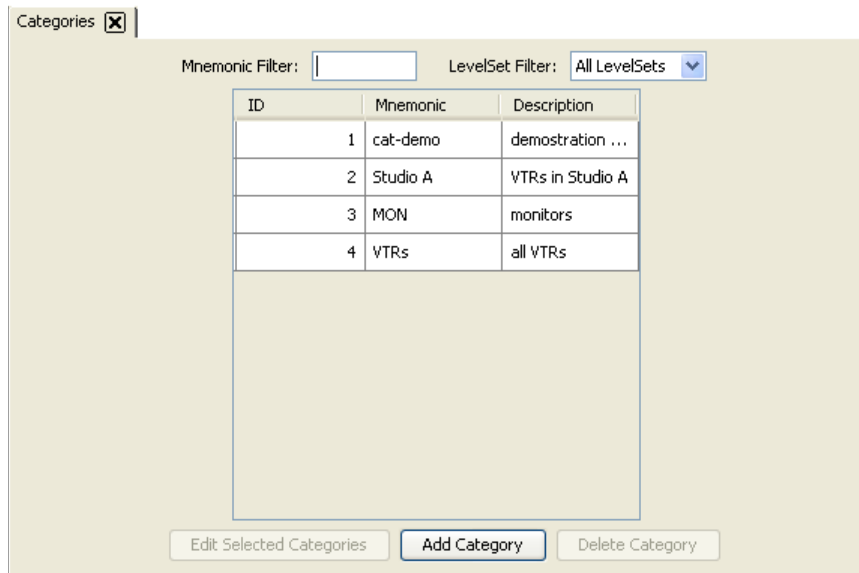

Figure 10-15. Categories Page
- 1 From the Navigation area, select the ‘Configuration’ pane and then ‘Categories’. The ‘Categories’ page appears, as shown in Figure 10-15.